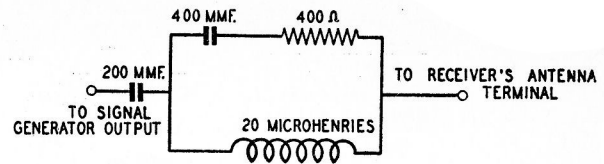

Fig. 16. Schematic Diagram, Standard RMA Dummy Antenna
1. Adjust the signal generator to 600 kc and connect to the antenna input terminal on the receiver through a standard RMA antenna. (See Fig. 16, Schematic Diagram Standard RMA Dummy Antenna.) Feed a signal of 1 to 5 Microvolts into the receiver.